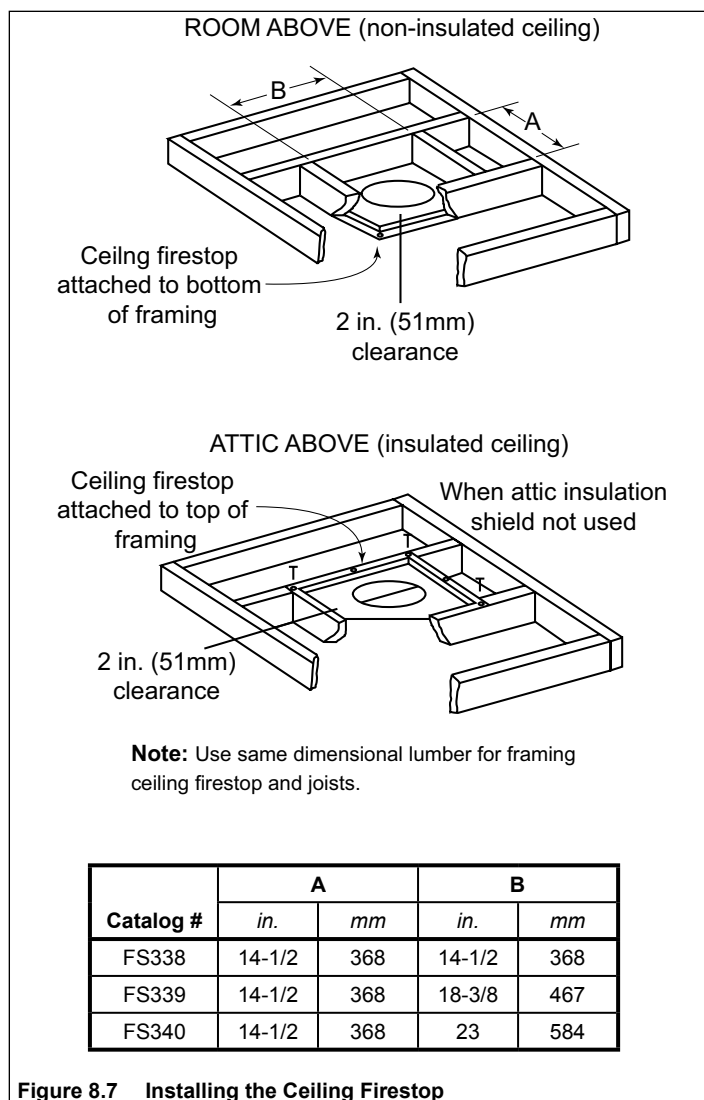

Figure 8.7 Installing the Ceiling Firestop
- Mark and cut an opening in ceiling as shown in Figure 8.7.